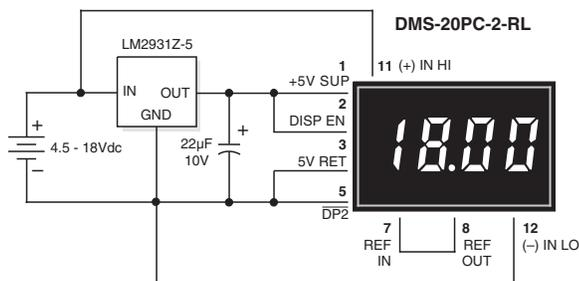

Figure 8. 4.5-18V Power Supply Monitor
6. Power Supply Monitoring: One of the most common digital panel meter applications involves monitoring the output voltage of the system power supply — often this supply also powers the meter itself. The low-power, red LED DMS-20PC-2-RL can be configured to allow power supply monitoring over the range of 4.5-18Vdc. The circuit in Figure 8 uses a low-drop-out, three-terminal regulator (LM-2931Z-5, available from National Semiconductor) to provide regulated 5V-power to the meter.